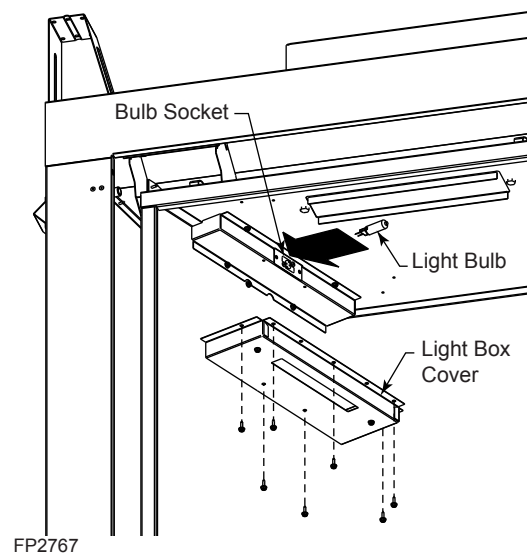

Figure 59 -
2. Remove the six (6) screws securing each light box and remove from unit. *Figure 59*
3. The light bulbs are included in the log packaging. install the light bulbs into bulb sockets as shown in *Figure 59*. **CAUTION:** Fingerprints or the transfer of oil from hands will reduce the lifespan of the bulbs. It is advisable to handle the light bulbs with a clean cloth.